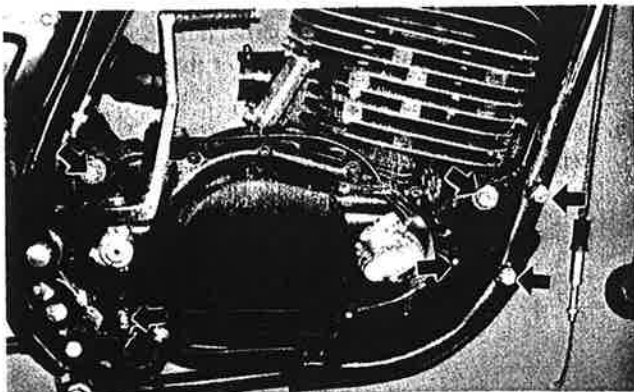

Fig. 3-1-22
1. Remove six engine mounting bolts. (Fig. 3-1-22)